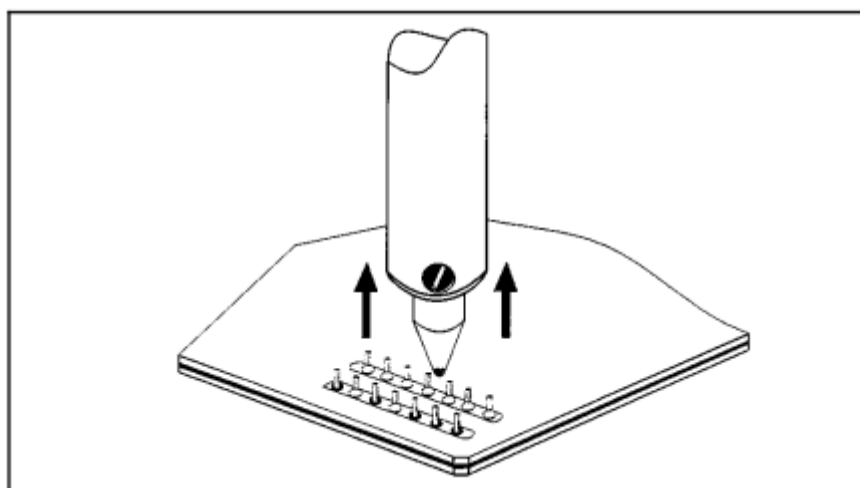

Figure 6 Lift Handpiece
14. Lift tip from lead, hold vacuum for an additional 3 seconds to clear all molten solder from heater chamber. (See Figure 6.)